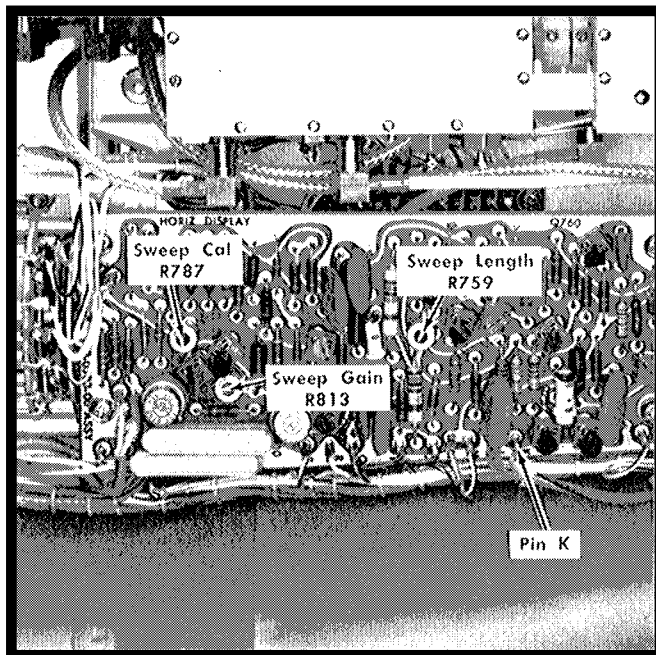

Fig. 6-15. Location of trigger and sweep adjustments.
- Adjust the Sweep Length R759 (see Fig. 6-15) for a 7.5 V peak to peak sawtooth waveform on the test oscilloscope
①
c. Preset the Sweep Cal R787 to midrange. Adjust the Sweep Gain R813 (see Fig. 6-15) for 10.5 divisions of sweep length. Adjust Sweep Cal R787 for 1 marker per division. Sweep timing must be within $\pm 3\%$ (1.2 minor divisions) over the center 8 graticule divisions.